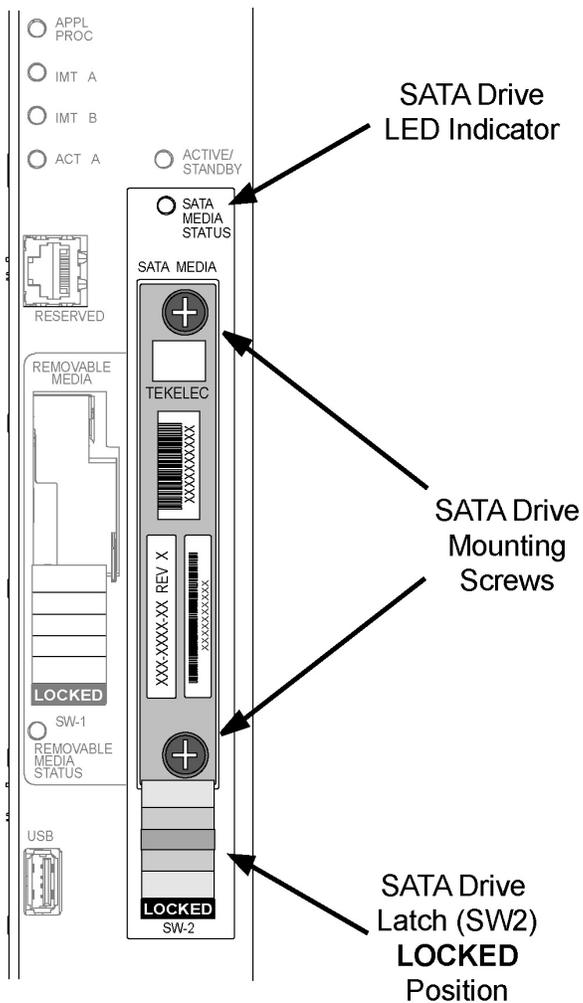

Figure 12: SATA Drive Locked
11. Verify that the SATA drive is locked in position and in use. Refer to Figure 12: SATA Drive Locked.